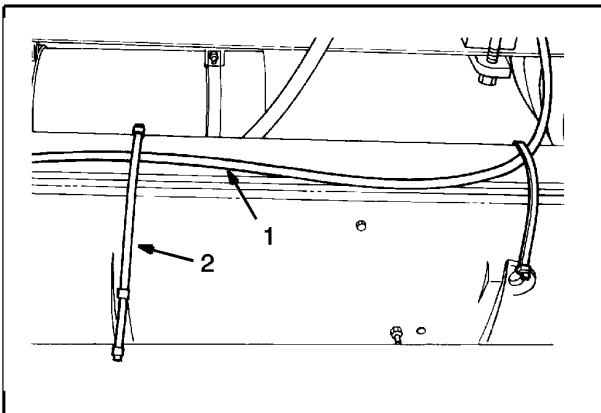

Figure 24 Gauge Test Hose Routing
- d. Secure the air hose to the vehicle so that it will not snag when the vehicle is turned (Figure 24).